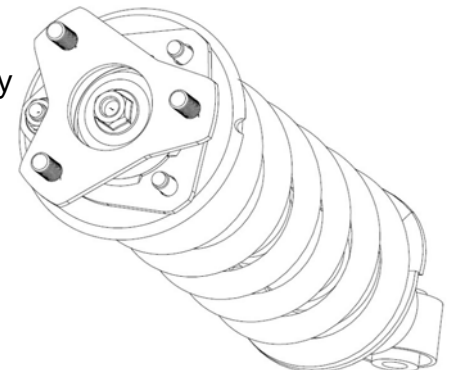

Fig 1. OE STRUT WITH SPACER ON TOP
7. Remove the strut assembly and install the strut spacer see Fig. 1.